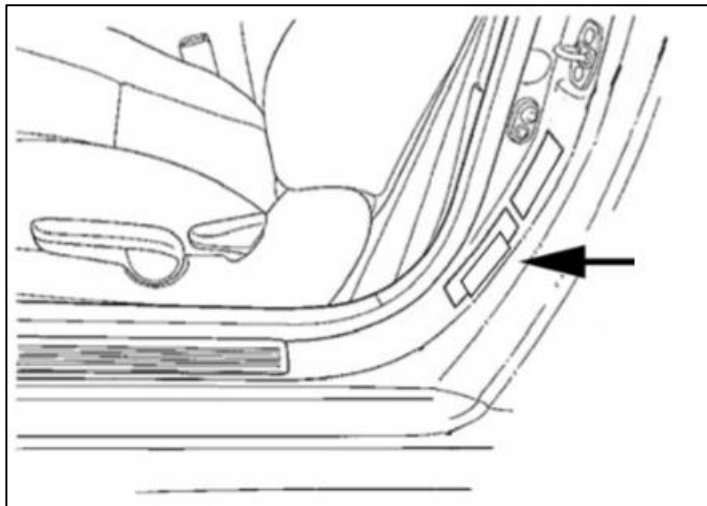

Fig. 12
19) Application of Tire Inflation Pressure Label is required when Accessory tire size and/or inflation pressure of differs from OE tire inflation label. See figure 12.